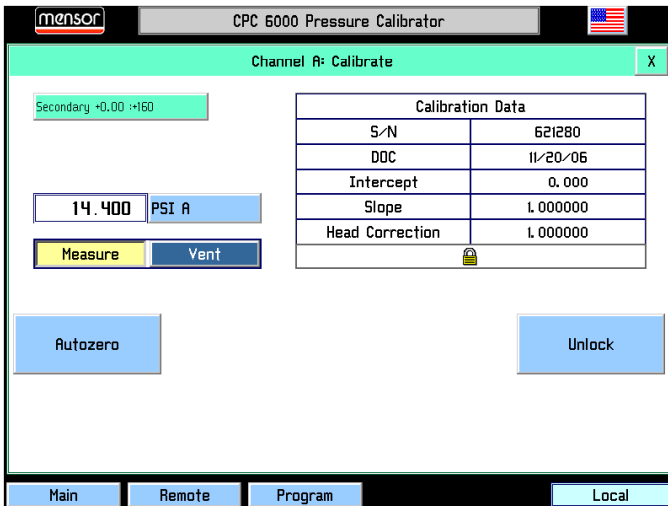

FIGURE 10.2 - LOCKED CALIBRATION DATA SCREEN
1. Press the [Calibrate] key to see the Calibration Data screen similar to Figure 10.2. Notice the padlock.